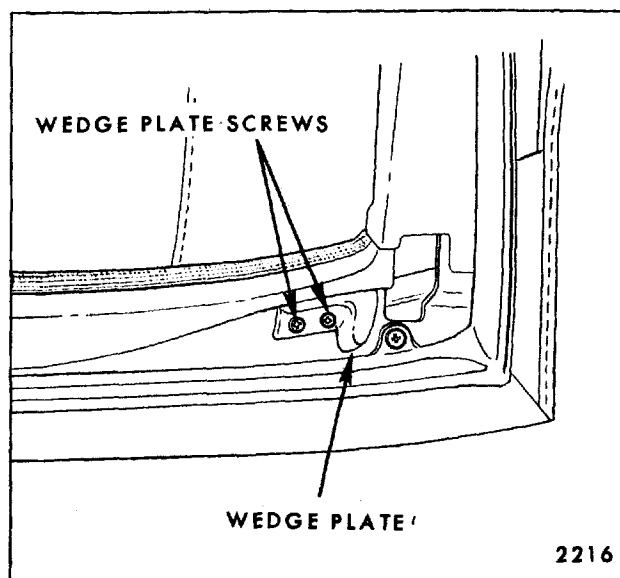

Fig. 6-79—Front Roof Rail Wedge Plate
2. Loosen wedge plate attaching screws (Fig. 6-79).